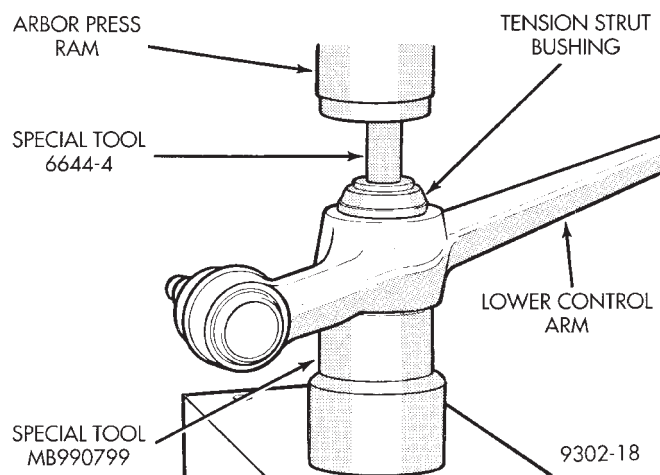

Fig. 84 Removing Lower Control Arm Tension Strut Bushing
(4) Separate the tension strut from the lower control arm assembly.
(5) Position lower control arm in arbor press with tension strut bushing inside Receiver, Special Tool MB-990799 and special tool supporting lower control arm (Fig. 84). Position Remover, Special Tool, 6644-4 on top of tension strut bushing (Fig. 84). Press Remover, Special Tool, 6644-4 down through the tension strut bushing until the arbor press can push it no farther. As Remover, Special Tool, 6644-4 is pressed down through tension strut bushing it will cut the bushing into two pieces.